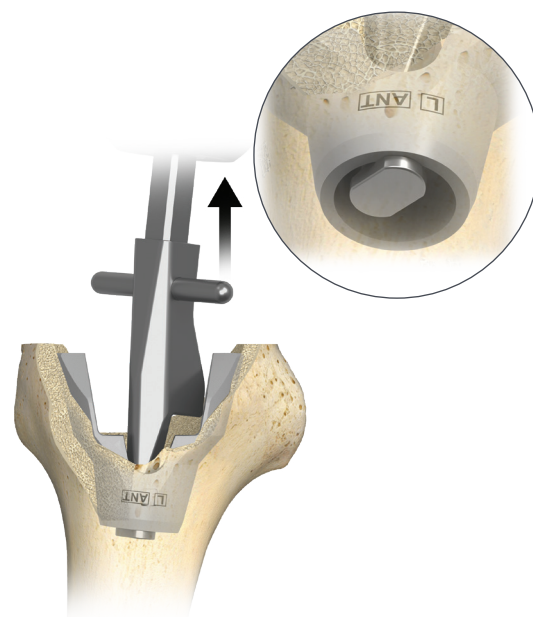

Figure 11
- ⓘ **Note:** If the cone provisional is difficult to remove, use the non-threaded end of the slap hammer to hook under the cone (Figure 11).